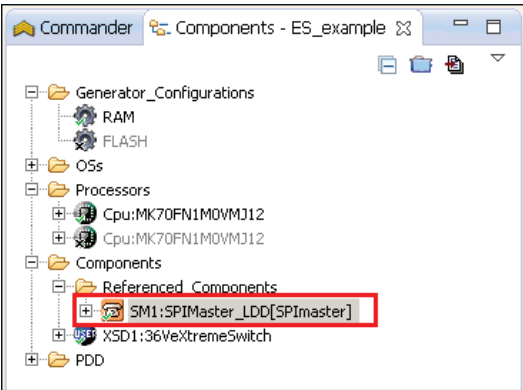

Figure 16. Setup 36VeXtremeSwitch
- 2. Setup the 36VeXtremeSwitch component configuration according to the TWR-MC36XSDEVB connection. Set the SPI master component linked to the 36VeXtremeSwitch component which is automatically loaded to the project (see Figure 16).